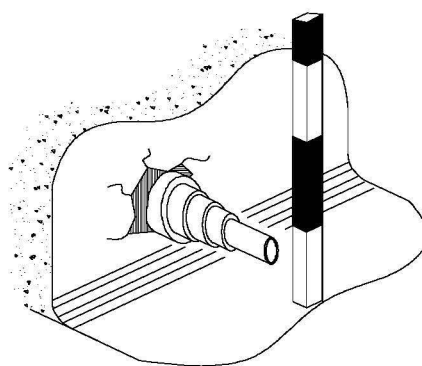

Figure B15 – Soil displacement hammer head appearing in retrieval trench
6. When the soil displacement hammer is nearing its destination indicated by the mark on the hose, one operator should stand by the retrieval pit and observe ground movement of the SDH emerging into the pit. The operator shall signal to the operator controlling the operation to reduce the air feed to a gentle hammer action (Figure B15).